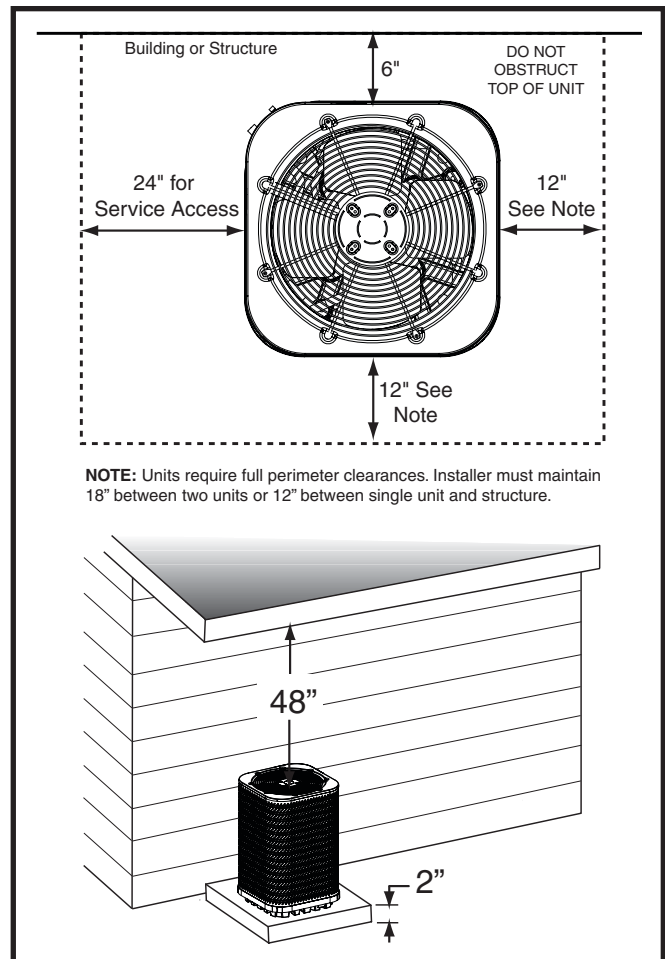

Figure 1. Clearance Requirements
- Overhead obstructions, poorly ventilated areas, and areas subject to accumulation of debris should be avoided. See Figure 1.
- Sufficient clearance for unobstructed airflow through the outdoor coil must be maintained in order to achieve rated performance. See Figure 1 for minimum clearances to obstructions.
- Clearances must be in accordance with those shown in Figure 1.
- A suitable mounting pad must be provided and be separate from the building foundation. The pad must be level and strong enough to support the unit's weight. The slab height must be a minimum of 2" (5 cm) above grade and with adequate drainage. See Figure 1.